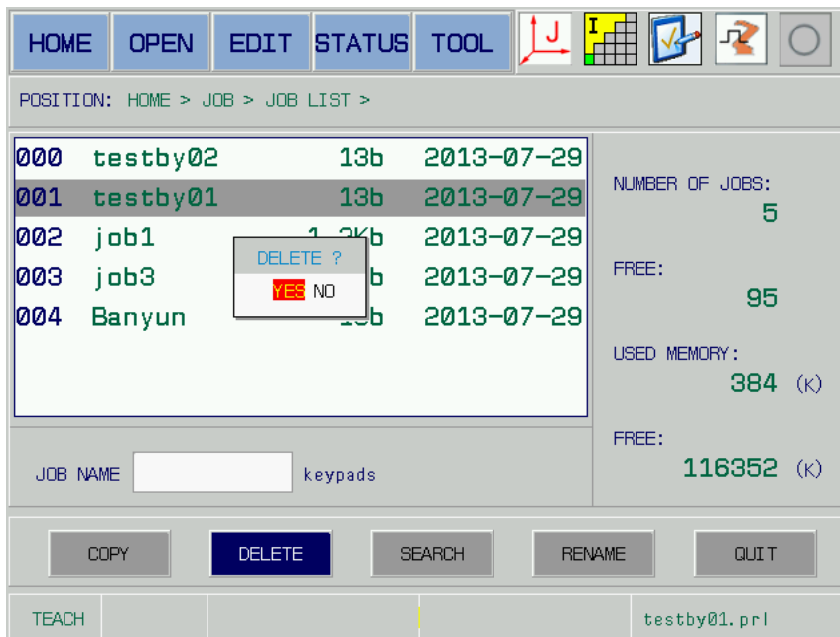

Fig. 5-12
3. Shift the cursor to the [DELETE] button by [TAB], then the [SELECT]; in this case, the file confirmation frame (DELET or not) appears; refer to the Fig. 5-12.